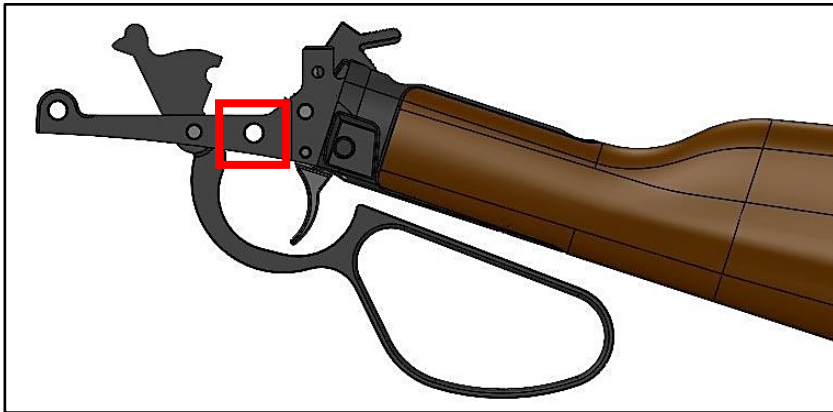

FIGURE 31
2. Insert a cable lock into the lower receiver through the slot indicated. FIGURE 31.